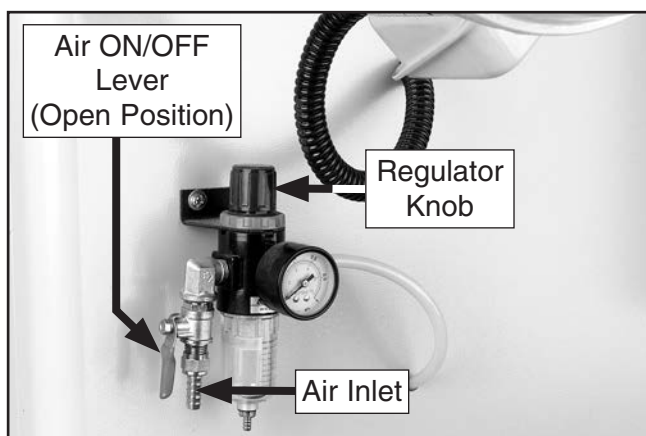

Figure 11. Air inlet and regulator components.
3. Lift regulator knob (see **Figures 11–12**) and turn it until air pressure gauge reads 75 PSI.